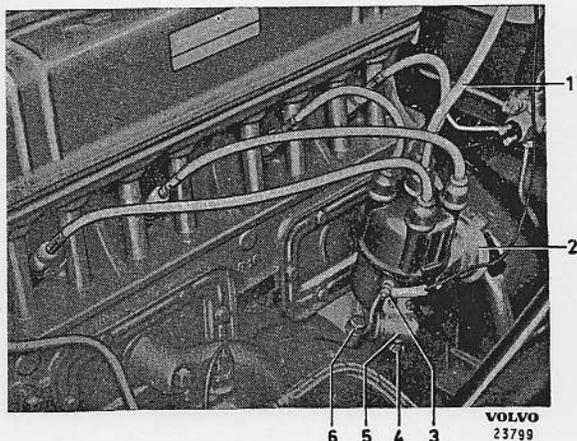

Fig. 11. Distributor fitted.
3. Remove the primary lead, 3, Fig. 11.
5. Remove the bolt 6, Fig. 11, on the control arm and lift the distributor off.